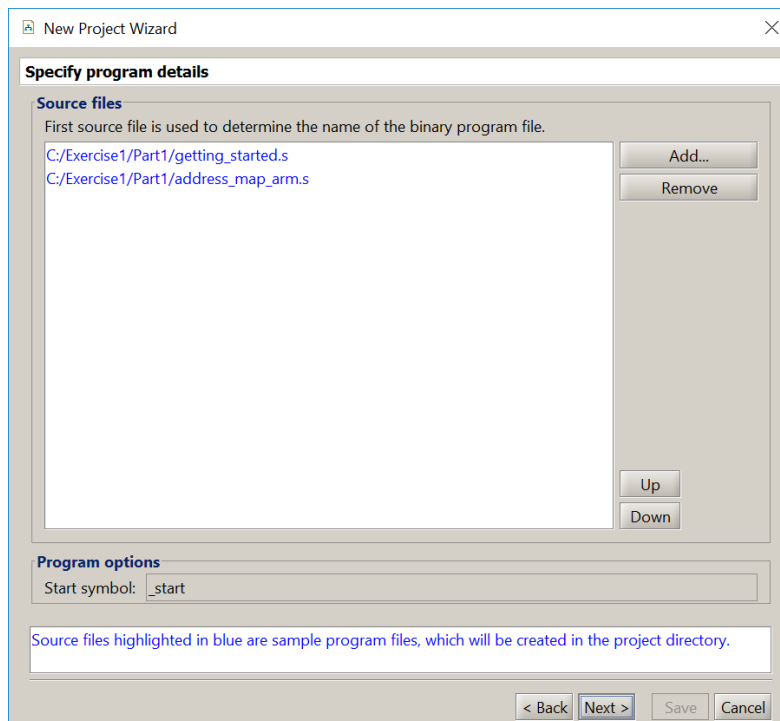
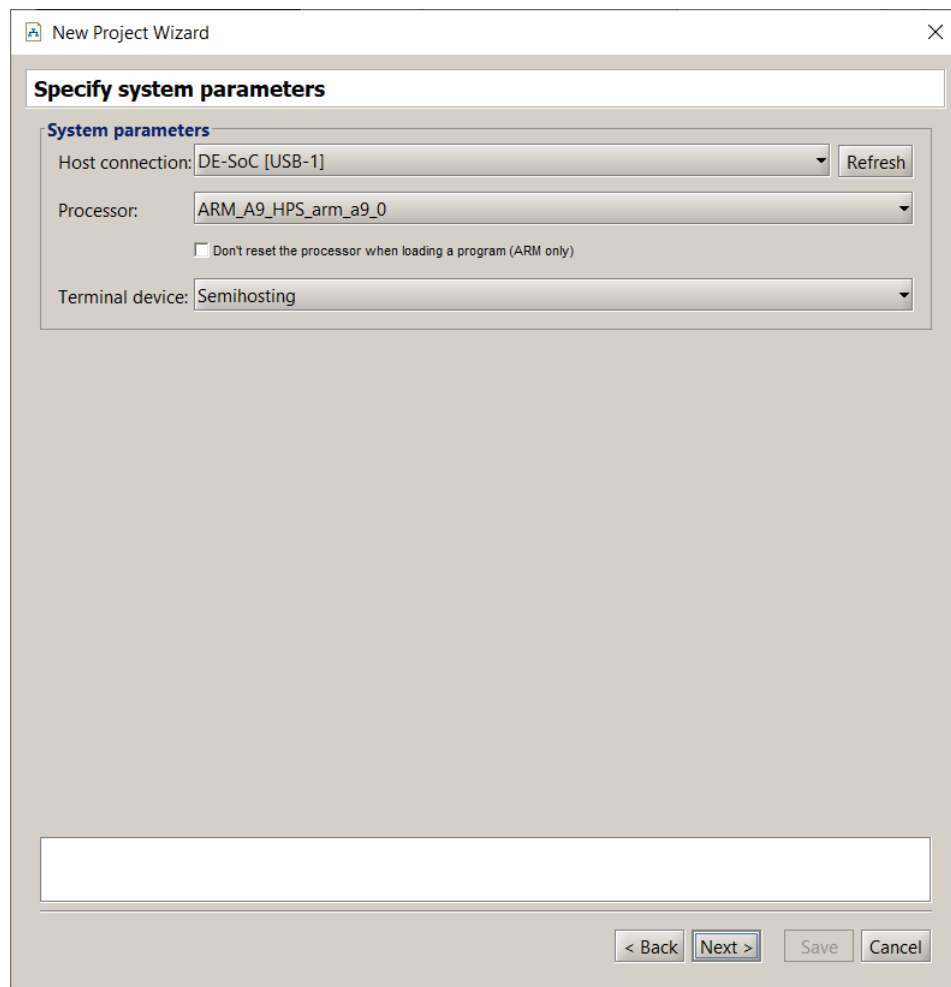
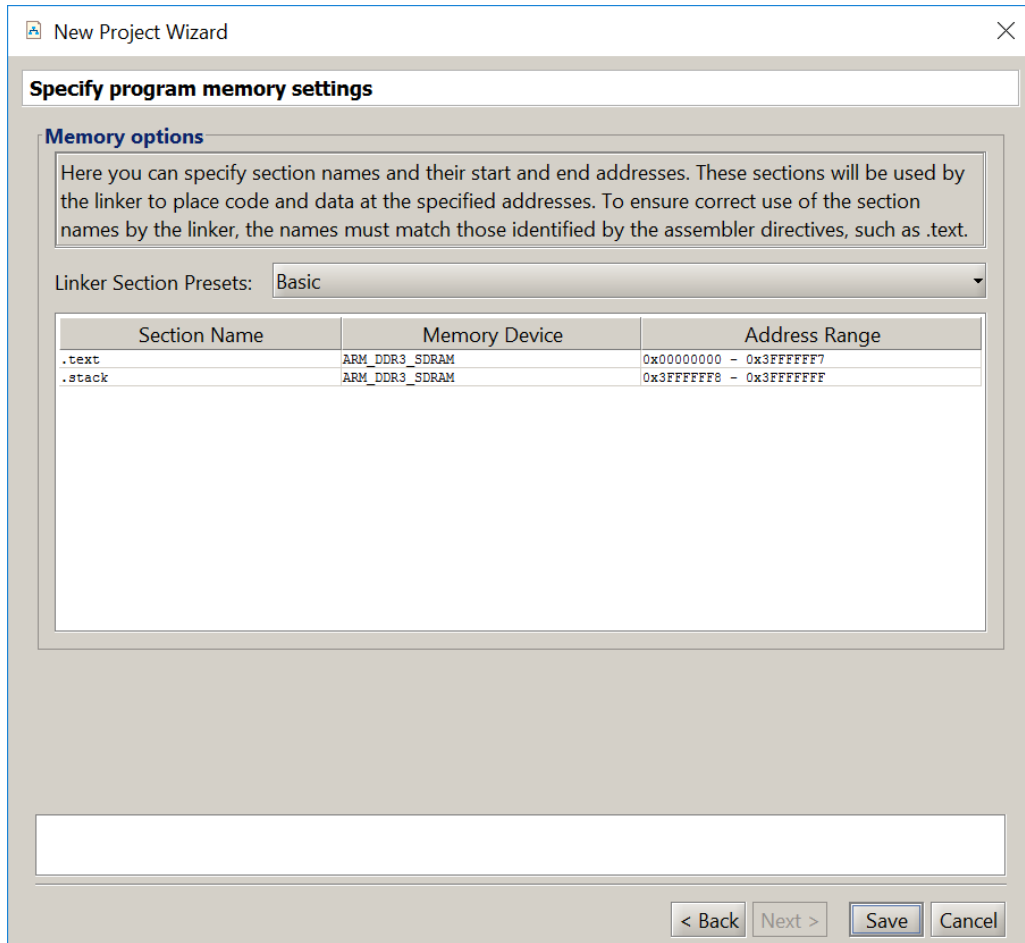

Figure 16: Source files used by the application program.
Figure 17: Specify the system parameters.
Figure 18: Specify the program memory settings.
5. The window in Figure 16 is used to specify the source file(s) that contain the application program(s). Since we have selected the *Getting Started* program, the window indicates the source code file for this program. This window also allows the user to specify the starting point in the selected application program. The default symbol is `_start`, which is used in the selected sample program. Click *Next*.
6. The window in Figure 17 indicates some system parameters. Note that the figure indicates that the *DE-SoC [USB-1]* cable is selected to provide the connection between the DE-series board and the host computer. This is the name assigned to the Intel USB Blaster connection between the computer and the board. Click *Next*.
7. The window in Figure 18 displays the names of Assembly sections that will be used for the program, and allows the user to select a target memory location for each section. In this case only the `.text` section, which corresponds to the program code (and data), will be used. As shown in the figure, the `.text` section is targeted to the DDR3 memory in the DE-series board, starting at address 0. Click **Save** to complete the specification of the new project.
2. Upon reaching the window in Figure 16, you have to specify the source code file for your program. Click **Add** and in the pop-up box that appears indicate the desired file name, *part2.s*. Click **Next** to get to the window in Figure 17. Again click **Next** to get to the window in Figure 18. Notice that the DDR3_SDRAM is selected as the memory device. Your program will be loaded starting at address 0 in this memory. Click **Save**. If you are prompted to download the DE1-SoC computer to your board, you can decline, as you already programmed the FPGA chip when performing Part V.